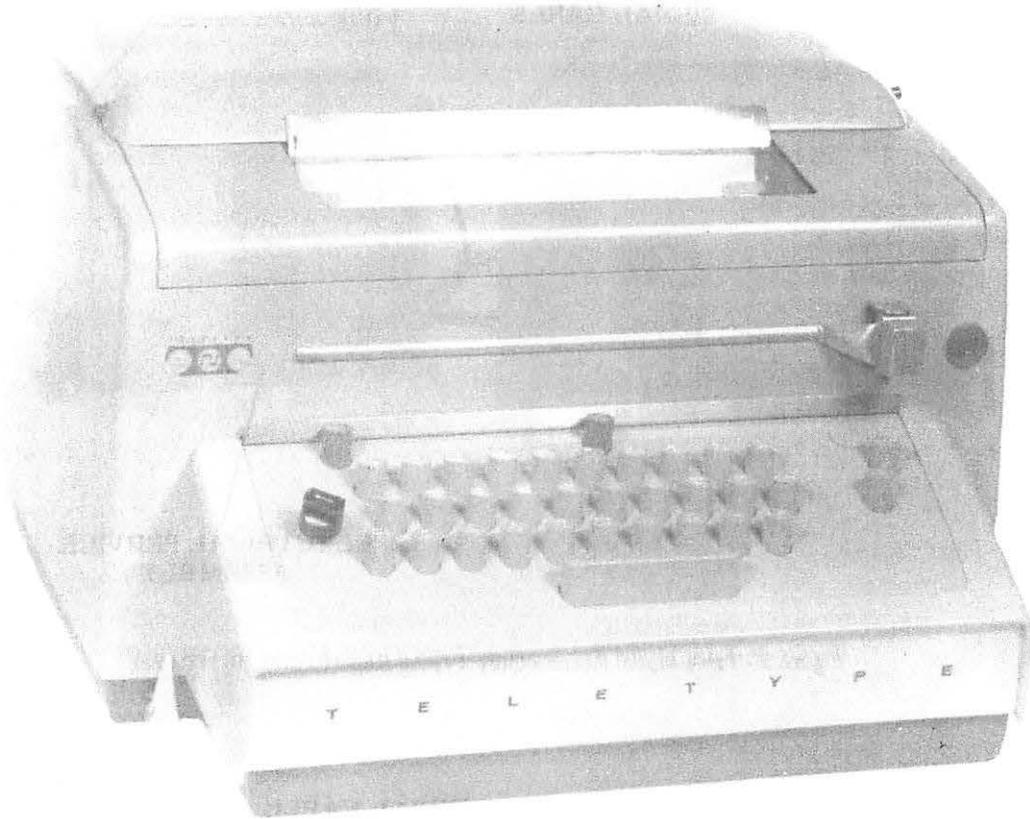

Figure 5 - Table Model 28/32 Compact Keyboard Send-Receive (KSR) Set
E. Table Model 28/32 Compact Keyboard Send-Receive (KSR) Set, Keyboard Send-Receive (KSR) Set, and Send-Receive Typing Reperforator (SRTR) Set (Figures 5 and 6)